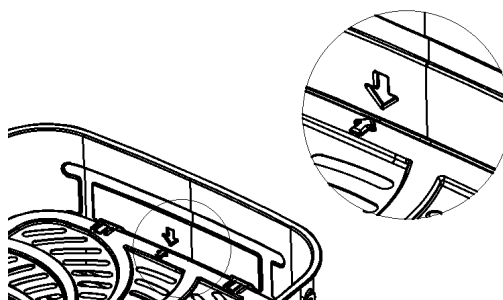

Figure 3
8. If the grate is to be used on a second level, the arrows on the grate must match the arrows on the bowl (Figure 3).